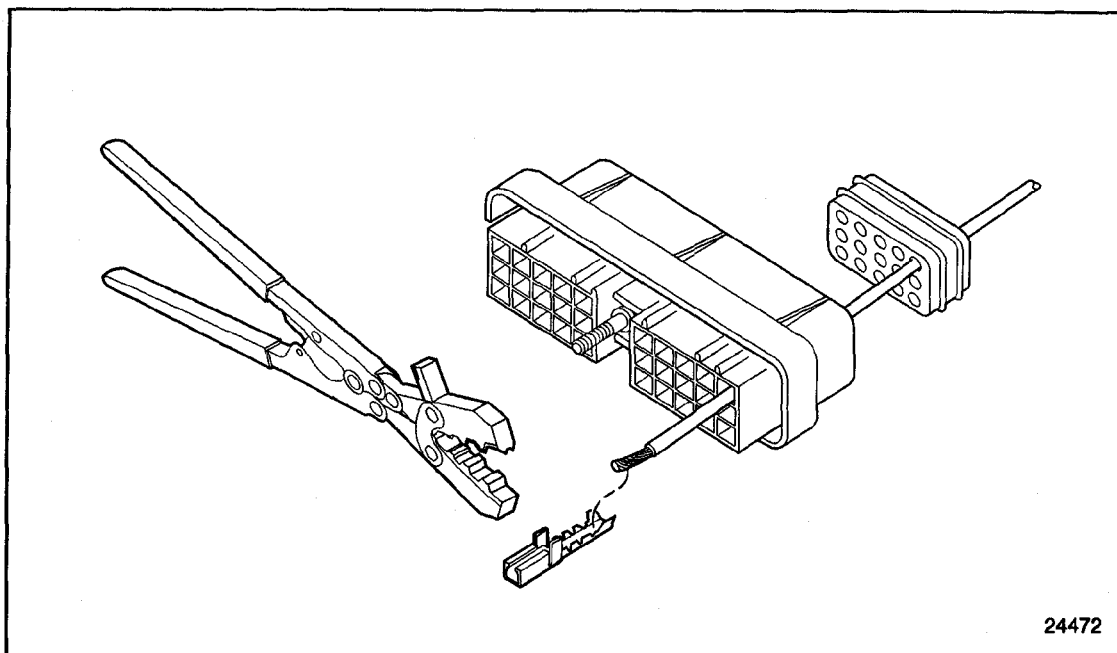

Figure 8-31 Terminal and Crimping Tool Position
5. Insert the terminal until the wire attaching portion of the terminal rests on the 20-22 anvil. Ensure the wire core wings and the insulation wings of the terminal are pointing toward the upper jaw of the crimping tool. See Figure 8-31.